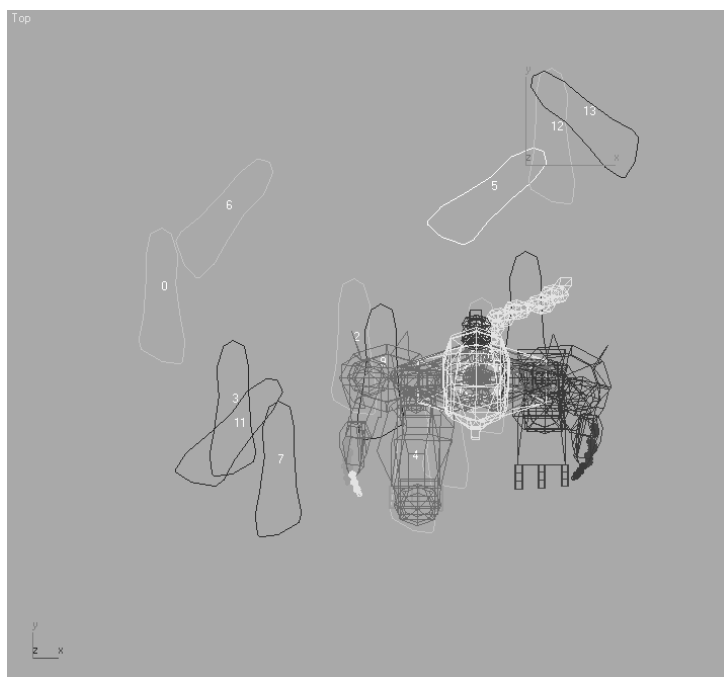

Figure 9.12
6. When you are done, use the Move and Rotate transforms to adjust the footstep locations and orientations as desired. Your Top viewport should look similar to Figure 9.12.